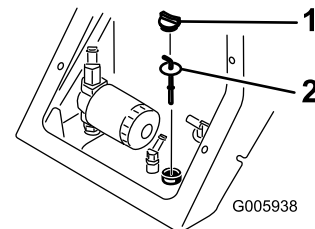

Figure 39
5. Clean the area around the filler neck of the hydraulic tank (Figure 39).
6. Remove the filler-neck cap and check the fluid level on the dipstick (Figure 39).